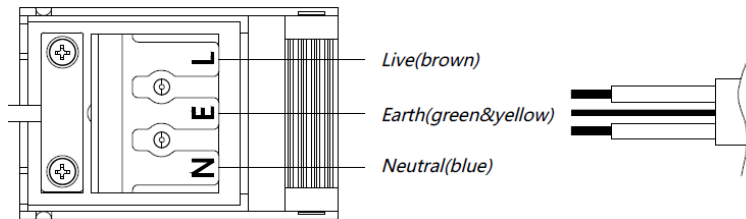

Fig. 3
- Connect the luminaire to the mains supply ensuring the correct polarity is observed (see Fig. 3): L – Live (brown), E – Earth (green/yellow), N – Neutral (blue). The earth terminal is non-functional and only provided for convenience. Two cables can be inserted into the push-fit terminal block in order to achieve loop-in/loop-out wiring.